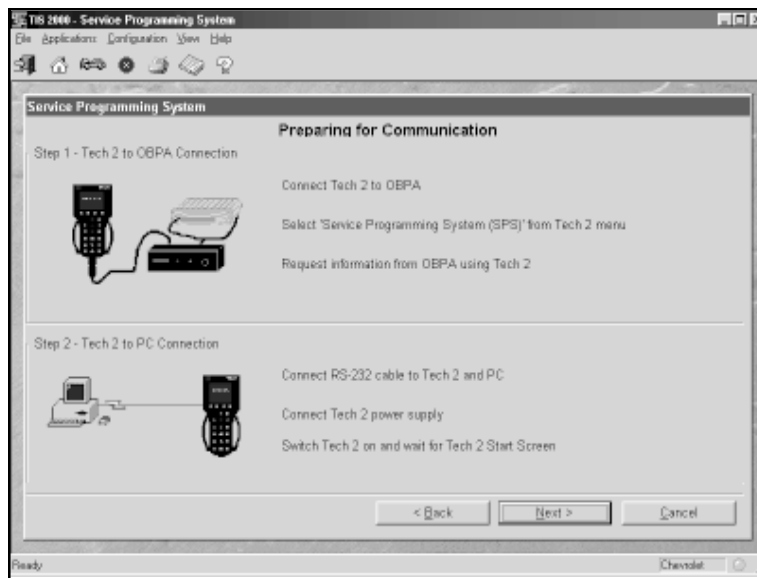

Figure I-6, Confirm Connections
- 2.6 A reminder screen will appear for making the appropriate connections (Figure I-6). Select **Next** after confirming connections.